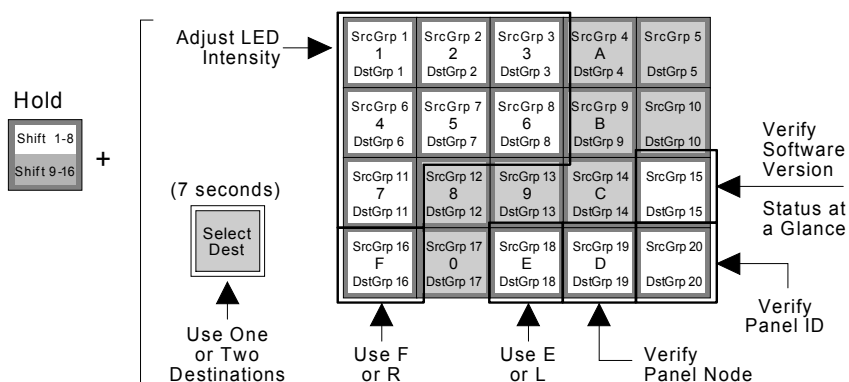

Figure 8-26. Panel Buttons used for Miscellaneous Panel Modes
2. While holding, press one of the first seven keypad buttons, as shown in Figure 8-26. Button **1** is the brightest setting; button **7** is the dimmest setting. (Even on the dimmest setting the LEDs are never completely off.)
2. While holding, press keypad button **D** as shown in Figure 8-26. (This button may also be labeled as **Group 19**.) In the **Destination Display**, the panel's node address appears.
2. While holding, press the keypad **Group 20** button as shown in Figure 8-26. In the first three **Source Displays**, the panel's ID appears.
2. While holding, press the keypad **Group 15** button, as shown in Figure 8-26. In the **Destination Display**, the panel's software version appears.
2. While holding, press the keypad **Group 18** button for 2 seconds, as shown in Figure 8-26. The panel toggles the extension between **E** and **L**, and the **Destination Display** shows the current button assignment.
2. While holding, press the keypad **Group 16** button for 2 seconds, as shown in Figure 8-26. The panel toggles the extension between **F** and **R**, and the **Destination Display** shows the current button assignment.
2. Press and *hold* the **Destination Select** button for *seven seconds*, as shown in Figure 8-26. The panel toggles between one destination and two, and the **Destination Display** shows the current mode — either “**USE ONE**” or “**USE TWO**.”
- While holding, press the keypad **Group 15** button, as shown in Figure 8-26. In the **Source Display Section**, the status of each special mode appears.